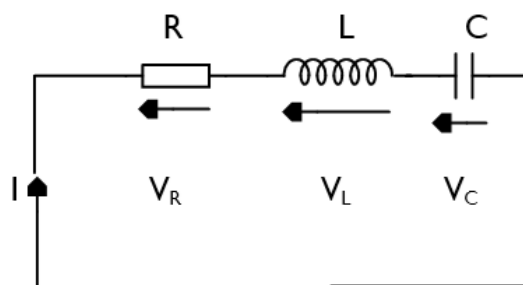

Figure 5.41: RLC series circuit
Consider a resistor R , an inductor L and a capacitor C connected in series as in **figure 5.41**. Note once again that the current (I) is common to all components since it is a series circuit. Therefore $V_R = IR$, $V_L = IX_L$ and $V_C = IX_C$.